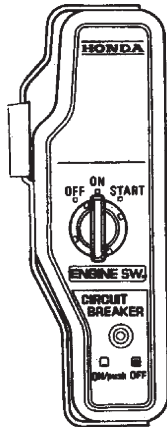

Figure 21. Engine Ignition Switch (On Position)
- Place the **Engine ON/OFF switch** (Figure 21) in the "ON" position.